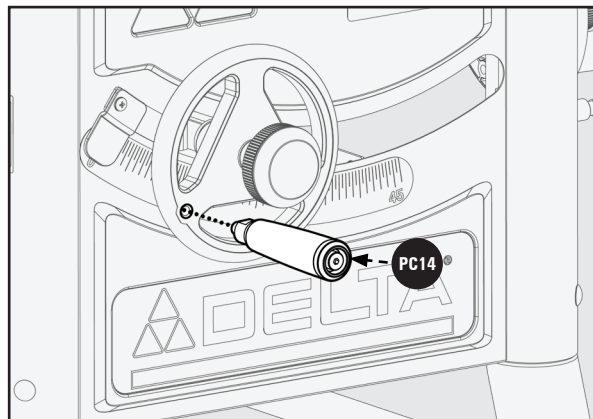

Figure 17
1. Insert one Handle **PC14** to the Elevation Hand Wheel located in the front of the Saw, as seen in Figure 17.